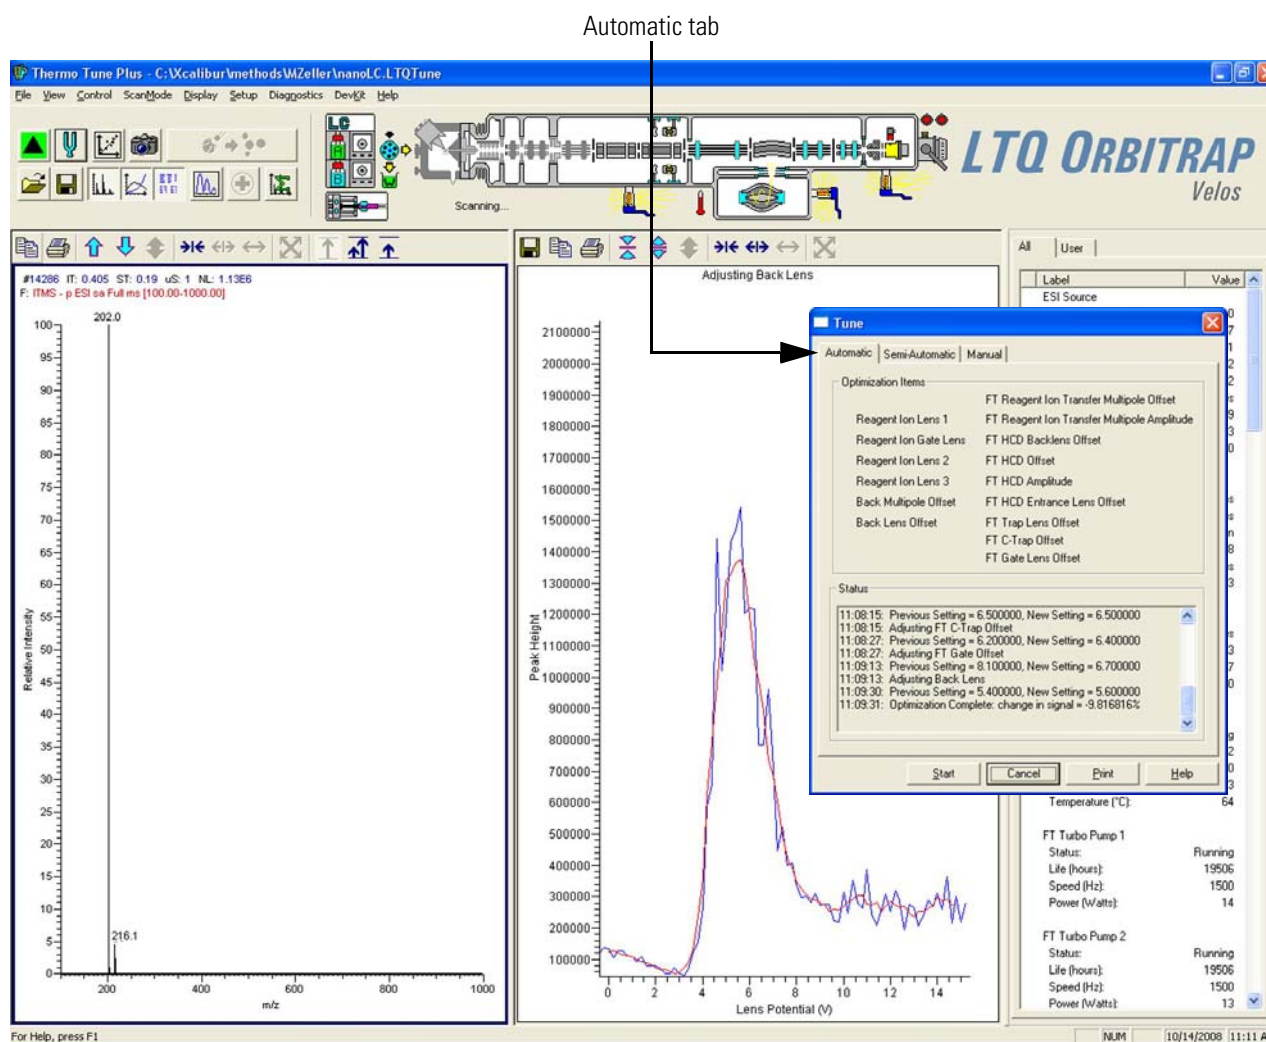

Figure 7-12. Tune Plus window with Automatic page of Tune dialog box displayed
- The left side of the underlying view shows the reagent ion spectra (fluoranthene). See Figure 7-12 on page 7-14. The center view shows one of the parameters that are automatically tuned (back lens potential tuned to maximize the signal intensity at m/z 202).